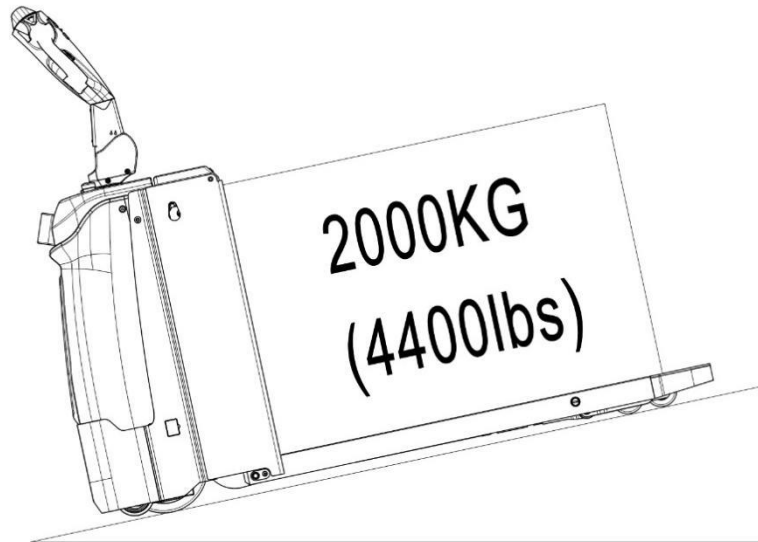

Fig. 7: Traveling on the ramp
**TRAVEL ON INCLINED SURFACE ONLY WITH THE LOAD FACING UPHILL (see fig. 7).